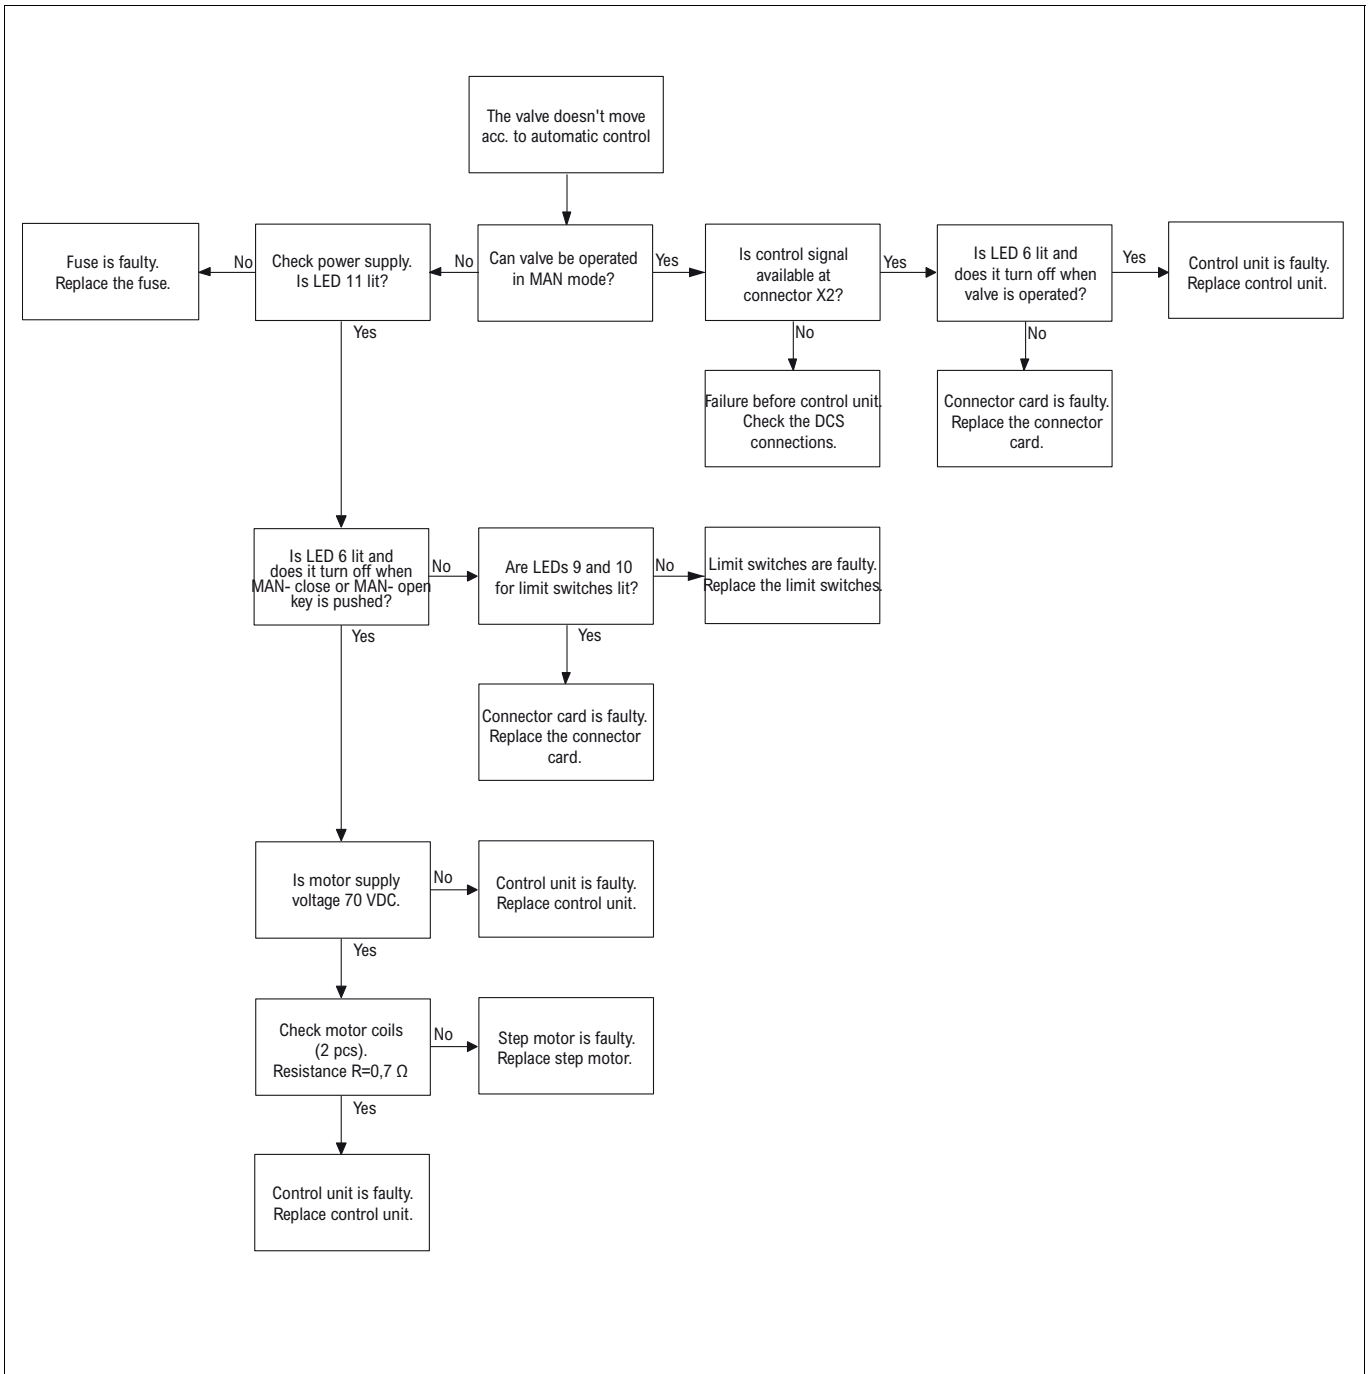

Fig. 17 Troubleshooting chart 1
- While installing the valve check the gap between segment and seat. The gap must be 0.20 mm in every part of segment. If the segment has moved, the gap may be smaller. In this case the segment must be centred before tightening the locking screws (27). Centring is made with a copper hammer or with another soft tool so as not to cause damage to the segment while hitting it. While the gap is of equal size in every part of segment, locking screws can be tightened.
- Install finger covers (170) by pressing them back in place. Check also the condition and stability of covers. If the covers do not stay properly, adjust them by bending the bracket. **Never use the actuator without properly mounted finger covers!**
In the following charts, Fig. 17 and Fig. 18, some failure situations have been presented. The charts refer to label (228) inside the controller and the LEDs of the controller, Fig. 5. IPCOMM communication program and instructions file can be also used in trouble shooting. The instructions file clarifies the functioning of application software. These charts are only applicable to correctly mounted and connected device. Installation and connection instructions are presented in Section 2.